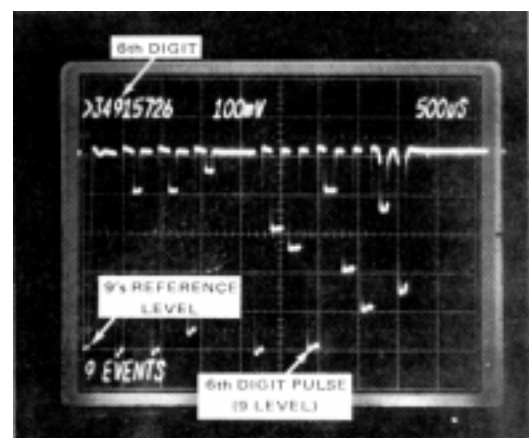

Fig. 5-4. A properly adjusted 6th pulse, compared to the 9's Reference Level.
n. Set the bottom of the 9 reference pulse on a horizontal graticule line with the Vertical Plug-In Position control. This now becomes the reference level for the 6th digit pulse (see Fig. 5-4).
o. Allow the 7D15 to continue counting until the 6th digit pulse reaches the most negative level. At this point, stop the input signal to the 7D15, (see Fig. 5-4).
p. Adjust R756 until the bottom of the 6th digit pulse is at the same level as the 9 reference pulse. See Fig. 5-4 for a properly adjusted 6th digit pulse.